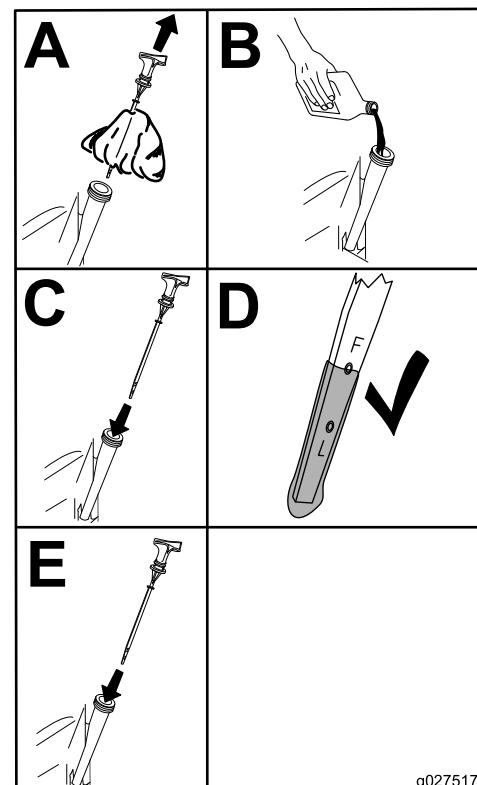

Figure 39
- Slowly pour approximately 80% of the specified oil into the filler tube (Figure 39).